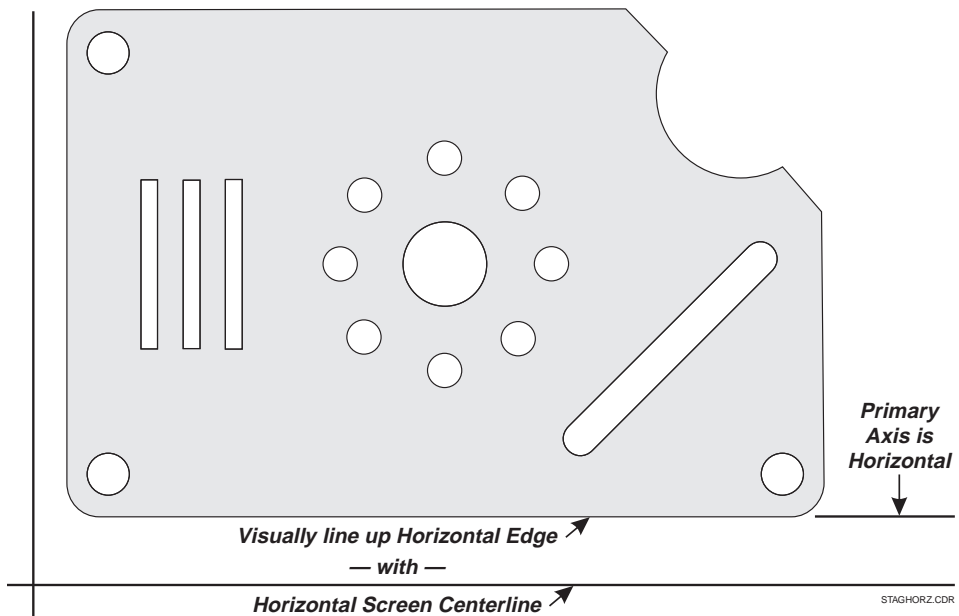

Figure 4-2. Aligning Horizontal Edge to Horizontal Screen Centerline
- If the primary axis is horizontal, position the part so that its horizontal edge is approximately parallel to the horizontal centerline (see Figure 4-2).